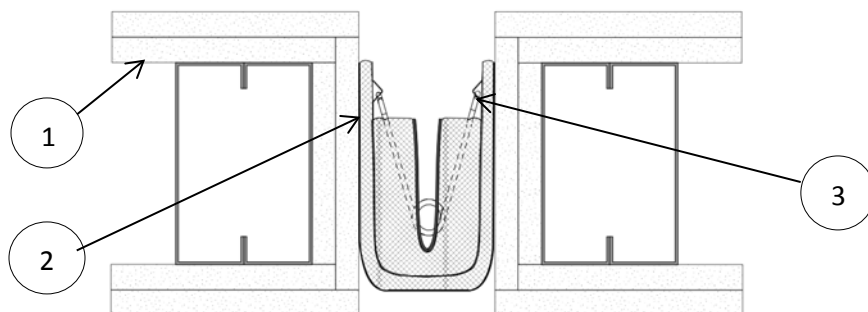

Figure 1
- SUPPORTING CONSTRUCTION:** 2 hour rated gypsum wall assembly made from two layers of 5/8 in. thick gypsum board, fastened to minimum 25 GA steel studs or minimum 2x4 wood studs in accordance with the corresponding listed design. Install steel box studs or wood double studs on both sides of the joint. Gypsum board must be present in the throat of the joint as shown in Figure 1.